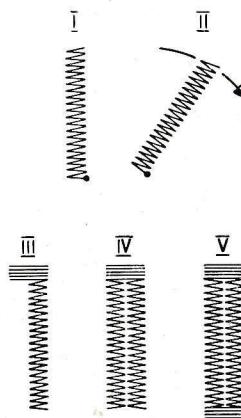

Fig. 1
- b) With the zig-zag stitch lever on the left index stop, make the first row of stitches (fig. 1, Operation « I ») going as far as to reach the limit marked by the guide. Leave the needle in the fabric to the right of the stitching.
- c) Raise the presser foot and turn the fabric half a turn round the needle (fig. 1, Operation II). Lower the feed dog again.
- e) Make the first bar tack with 3 or 4 stitches (fig. 1, operation III) and stop with the needle off the fabric.
- f) Move the zig-zag stitch lever to the left index stop, which should be at 1.5, and make the second row of stitches as long as the first (fig. 1, Operation IV).
- g) Move the zig-zag stitch lever to the right index stop and make the second bar tack (fig. 1, Operation V).
tches (fig. 1,
e first (fig. 1,
tack (fig. 1,